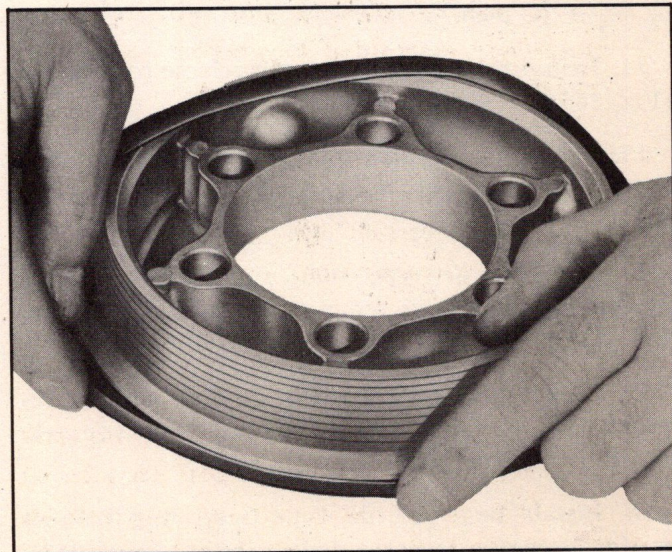

Fig. 264—Installing Outer Seal
12. Remove piston from rear bearing retainer and install outer seal on piston with seal lip toward flat side of piston. Work seal well into groove (Fig. 264).